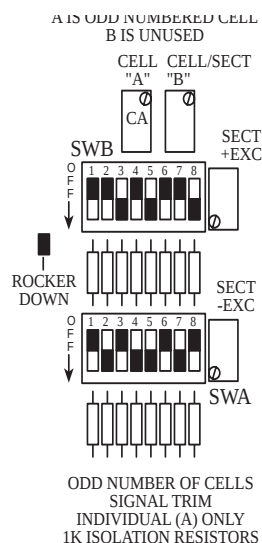

Figure 5
3. If you have an odd number of load cells, connect the odd cell to an odd-numbered (A) unused cell connector (3, or 5, or 7). Configure that connector as shown in Figure 5. You must disable the trimming to any unused cell connectors.